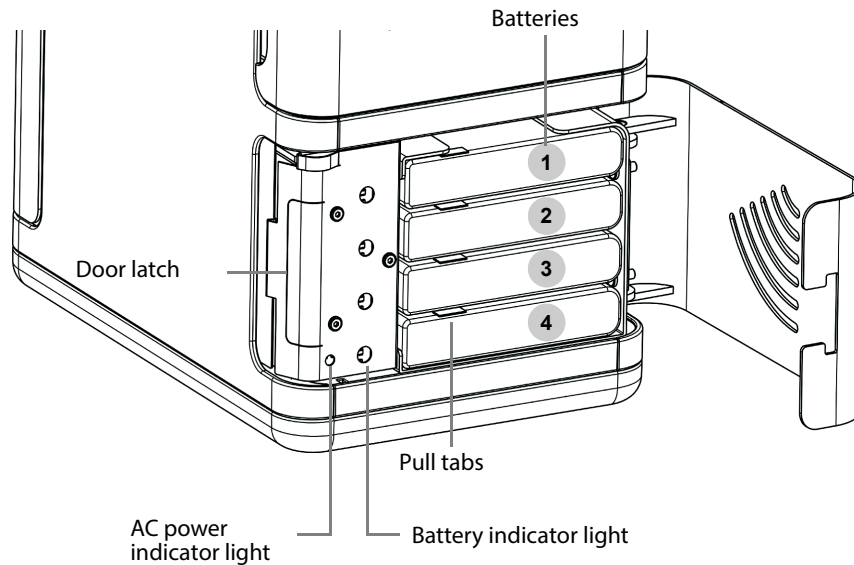

Figure 4-4. Front of a battery pack containing 4 batteries.
**Battery indicators** When the door to the battery pack is open, you can see LED indicator lights showing the status of each individual battery (see Fig 4-4). The battery numbers refer to the position of the battery in the pack and are relevant for system messages about battery status.
When the system is plugged in, the display on the battery box is lit and the AC Power indicator light (normally hidden by the door on the battery pack) is lit. See Fig 4-4.
Replace battery message	When it is time to replace a battery, a message appears on the monitor telling you which batteries should be replaced. The battery numbers in the message refer to the numbering used in Fig 4-4.
When the door to the battery charger station is open, you can see LED indicator lights showing the status of each individual battery (see Fig 4-4).